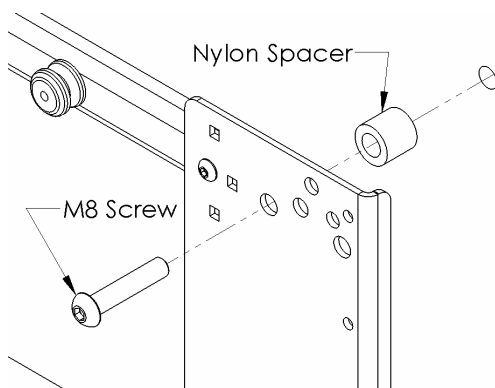
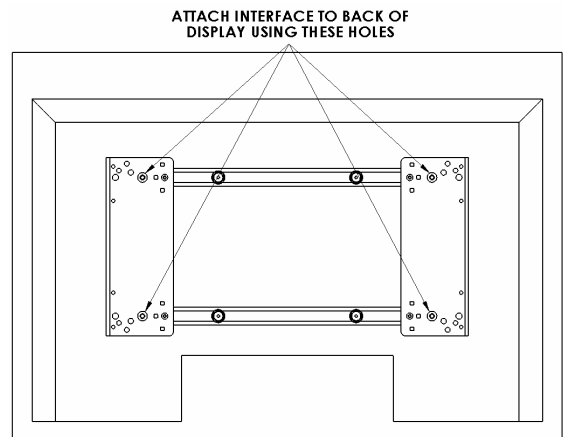

Figure 8
Figure 9
5. **Bracket Installation:** Place nylon spacers over mounting holes of screen and attach brackets to back of display using the M8 screws (see Figure 8 & Figure 9). Do not over tighten screws.